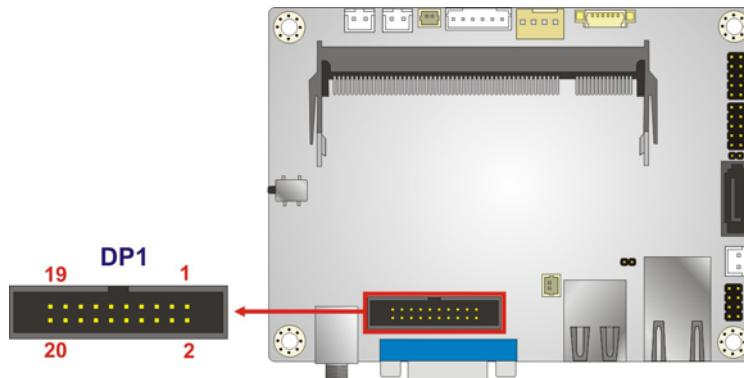

Figure 3-10: Display Port Connector Location
**Figure 3-9: DDR3L SO-DIMM Slot Location****3.2.9 Display Port Connector****CN Label:** DP1**CN Type:** 20-pin box header, p=2.0 mm**CN Location:** See **Figure 3-10****CN Pinouts:** See **Table 3-10**